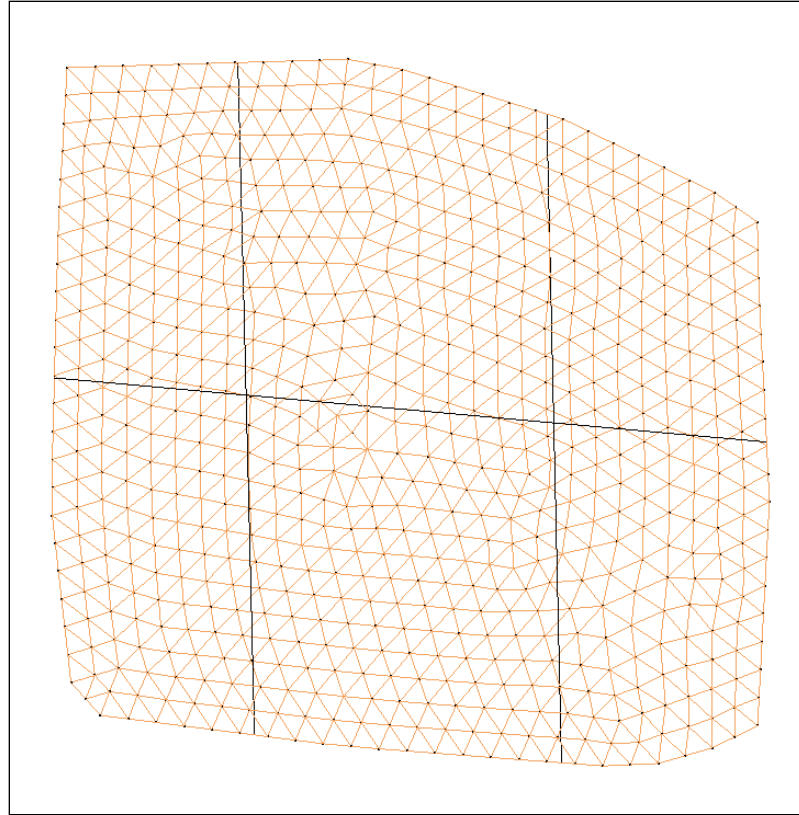

Figure 11 Cross sections through stratigraphy model
2. Using the **Create Cross Section**  tool, cut three cross sections through the solid, similar to the ones shown in Figure 11. Single-click to begin making a cross section and double-click to end.